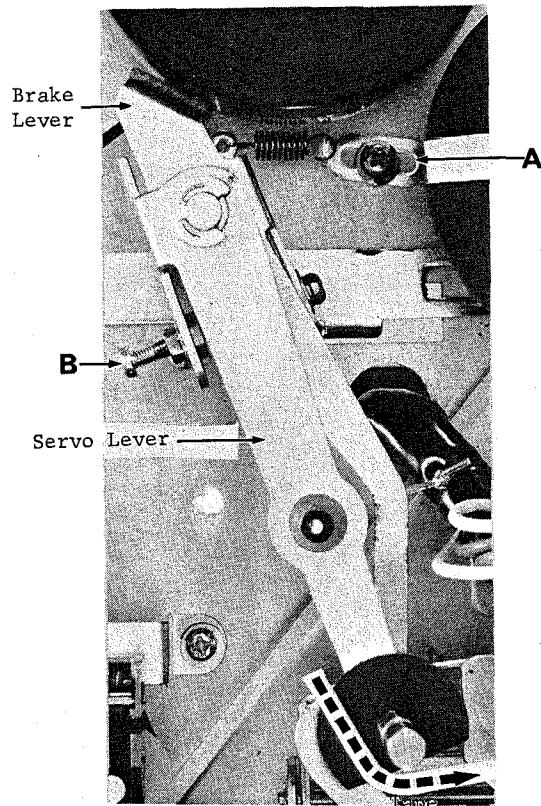

Fig. 6-8 Tension Servo Loop
3. If it is not within limits, adjust by turning the screw which changes the spring force (B).
NOTE: For locations of (A) and (B) above, refer to Fig. 6-8 Tension Servo Loop.